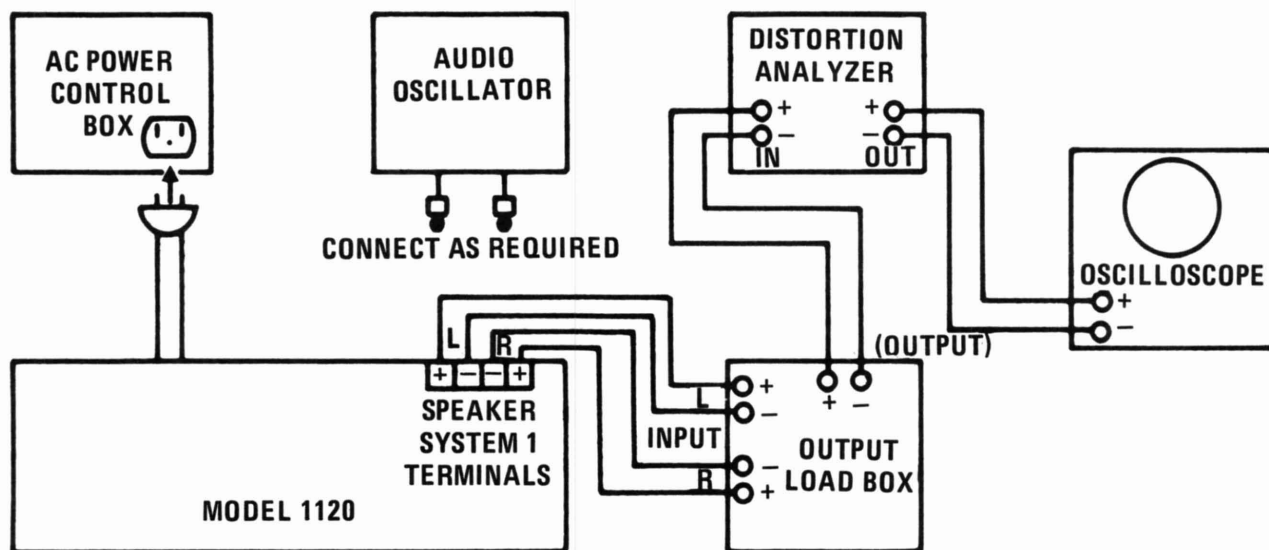

Figure 5. Test Equipment Set-up
Above items are assembled per Figure 5 or as directed in Test or Alignment Procedures
1. All tests are performed with the unit under test and the test equipment connected as shown in Figure 5. Except for the IDLING POWER test, all tests are performed with 120 VAC line voltage applied to the unit. Unless otherwise specified in the procedure, the test equipment controls will be set in the following position during each test.
Return test equipment to set-up shown in Figure 5.